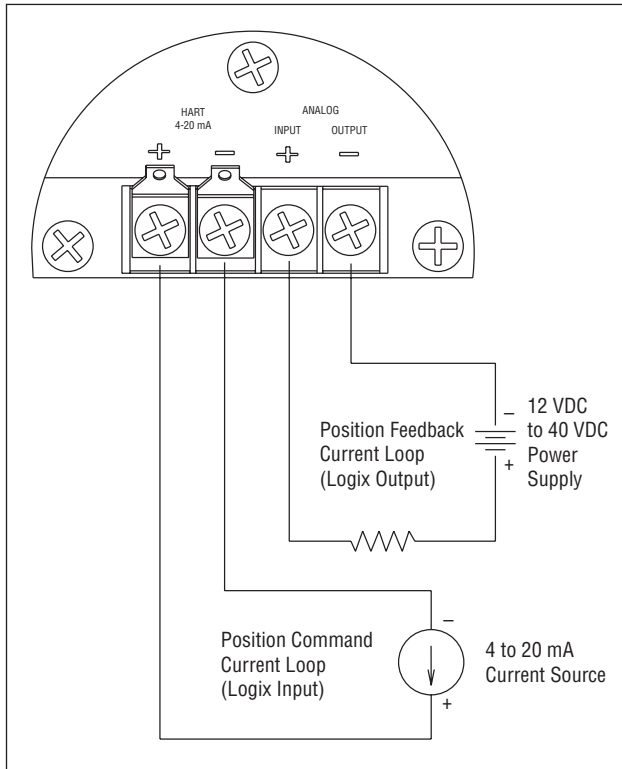

Figure 26: Analog Output Board Power
The Logix 3200IQ digital positioner can be supplied to provide an analog feedback signal of the stem position. This option can also be retrofitted in the field. The 4-20 mA analog output board is wired in series with a 12.5 to 40 VDC power supply (see Figure 26). This position feedback option has the following features and specifications:
10. Connect the Analog Output filed termination wiring to the Analog Output terminals on the User Interface board (see Figure 26.)